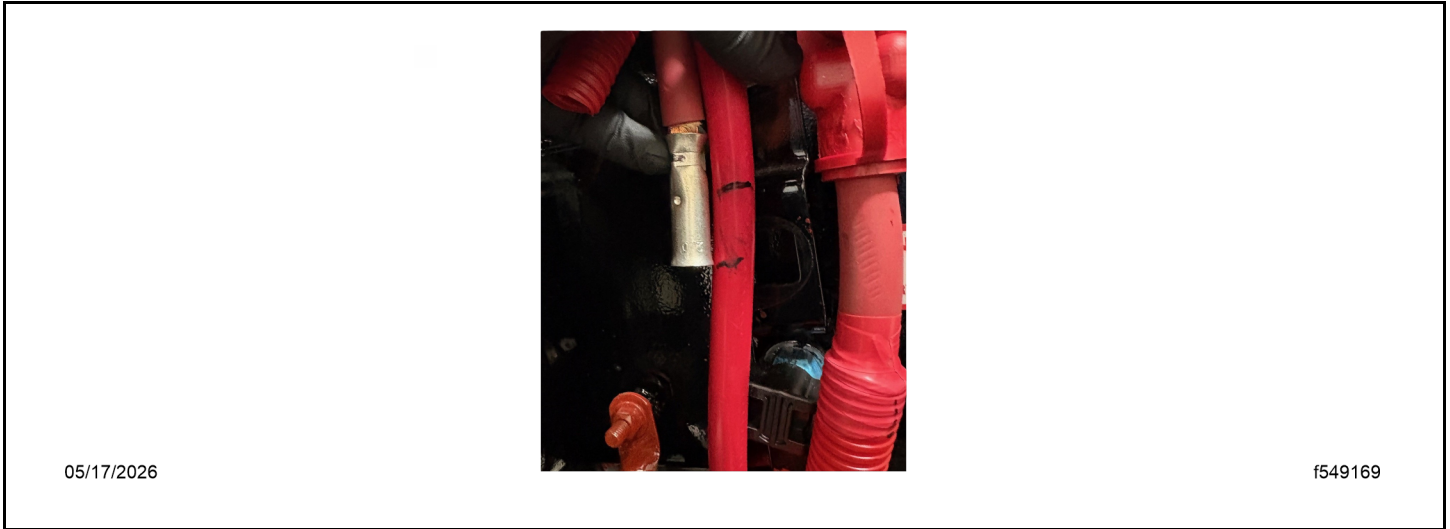

Fig 20, Determining the Starter Cable Length
34. Determine the ideal length for the new starter cable between the starter and butt connector. Cut the cable. See Fig. Fig. 20.